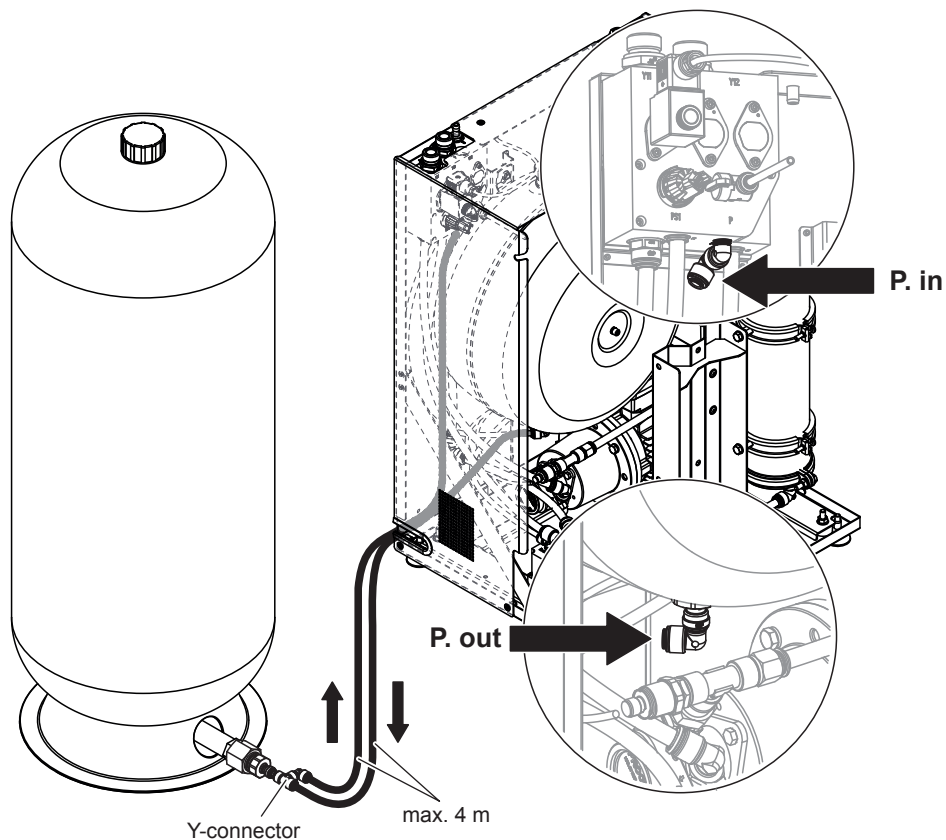
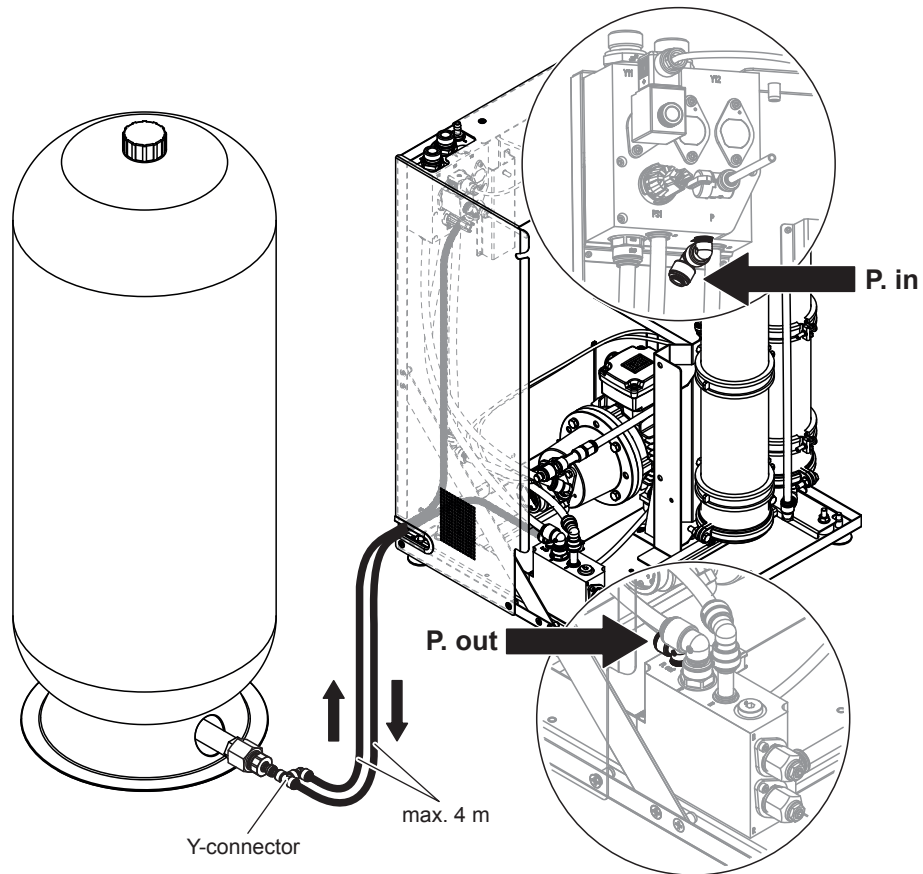
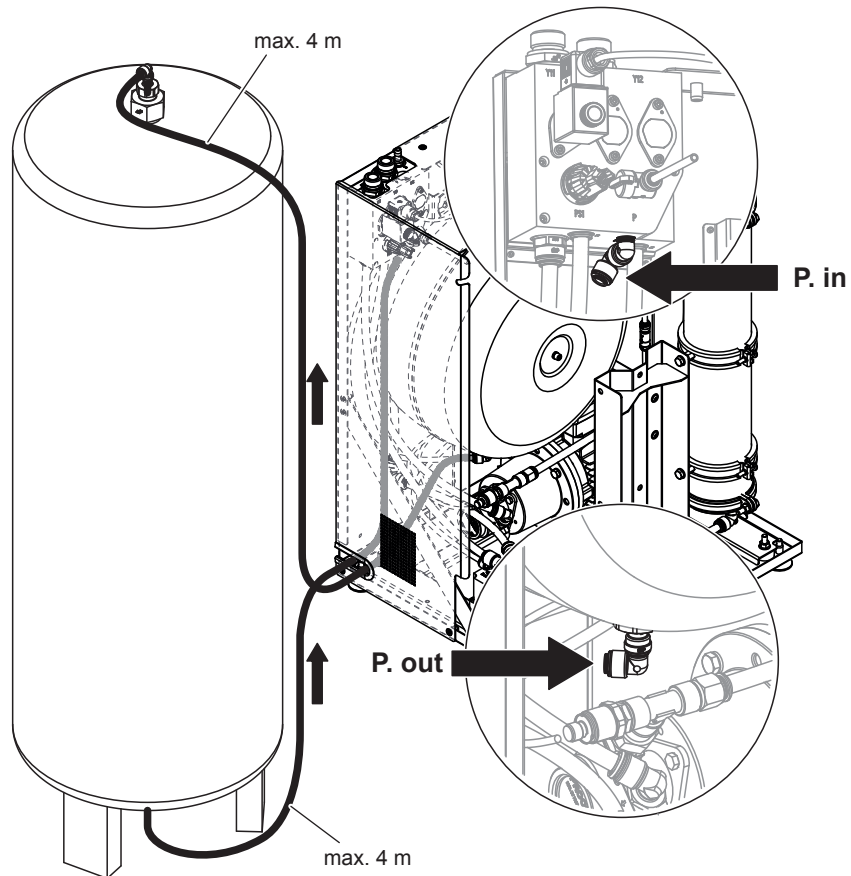
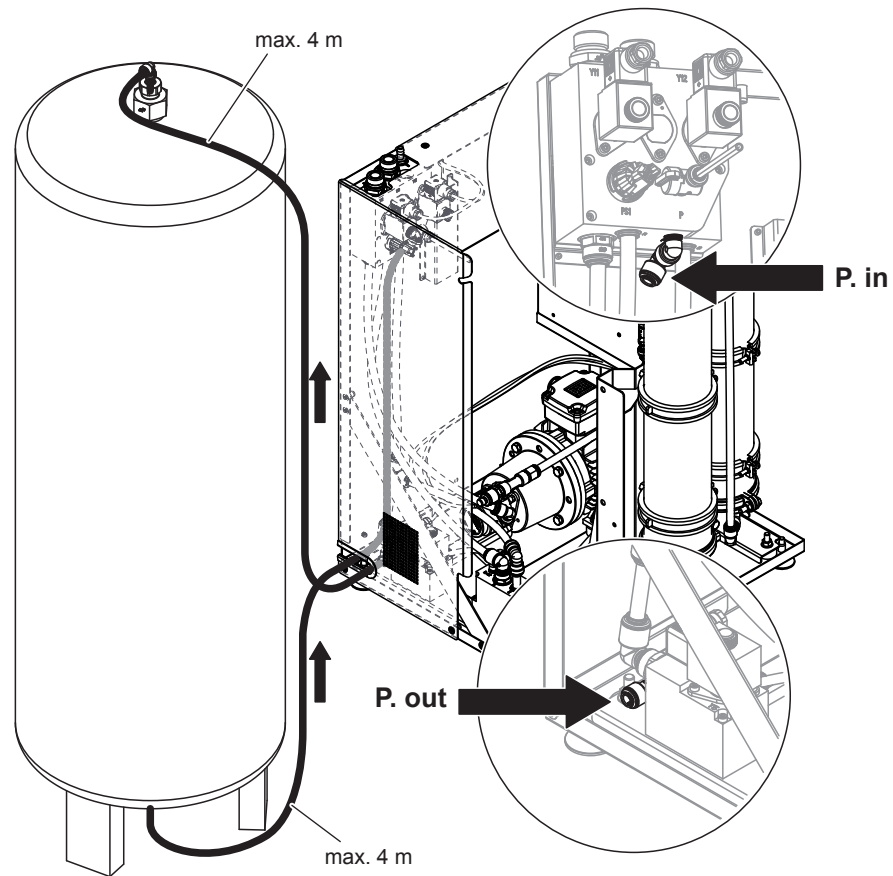

Fig. 23: Connecting the external pressure tank to the Condair RO-E 40/100 pure water system (figure shows RO-E 100)
Fig. 24: Connecting the external pressure tank to the Condair RO-E 200/300 pure water system (figure shows RO-E 200)
Fig. 25: Connecting the optional external pressure tank to the Condair RO-E+ 40/100 pure water system with internal pressure tank (figure shows RO-E+ 100)
Fig. 26: Connecting the external pressure tank to the Condair RO-E+ 200/300 pure water system (figure shows RO-E+ 200)
- The length of the connecting hoses should be kept as short as possible. The maximum hose lengths shown in Fig. 24 to Fig. 26 must not be exceeded.
- Make sure that the connecting hoses are not routed higher than the "P. in" connection inside the Condair RO-E 200/300 pure water system (see Fig. 23 to Fig. 24) or higher than the connection at the top of the pressure tank of the Condair RO-E(+) pure water systems (see Fig. 25 to Fig. 26).
4. **On Condair RO-E 40/100:** Connect the supplied black JG hose $\varnothing 8$ mm to the angle connector of the internal pressure tank (see Fig. 24). Route the hose to one of the ports on the Y-adapter on the external pressure tank. Cut the hose to length and connect it to the pressure tank's Y-adapter.
On Condair RO-E 200/300: Connect the supplied black JG hose $\varnothing 8$ mm to the angle connector of the "P. out" port on the logic block (see Fig. 24). Route the hose to one of the ports on the Y-adapter on the external pressure tank. Cut the hose to length and connect it to the pressure tank's Y-adapter.
On Condair RO-E+ 40-300: Connect the supplied black JG hose $\varnothing 8$ mm to the angle connector of the internal pressure tank (see Fig. 25) or of the "P. out" connection of the logic block (see Fig. 26). Lead the hose to the **upper** connection on the (first) external pressure tank, cut the hose to length and connect it to the angle connector of the pressure tank.
- On Condair RO-E 40/100:** Connect the supplied black JG hose $\varnothing 8$ mm to the angle connector of the "P. in" port on the inlet valve block (see Fig. 23). Route the hose to the second, unused port of the Y-adapter on the external pressure tank. Cut the hose to length and connect it to the Y-adapter.
On Condair RO-E 200/300: Connect the supplied black JG hose $\varnothing 8$ mm to the angle connector of the "P. in" port on the inlet valve block (see Fig. 24). Route the hose to the second, unused port of the Y-adapter on the external pressure tank. Cut the hose to length and connect it to the Y-adapter.
On Condair RO-E+ 40-300 Connect JG hose $\varnothing 8$ mm to the angle connector of the "P. in" connection of the inlet valve block (see Fig. 25 or Fig. 26). Lead the hose to the **lower** connection on the (last) external pressure tank, cut the hose to length and connect it to the angle connector of the pressure tank.